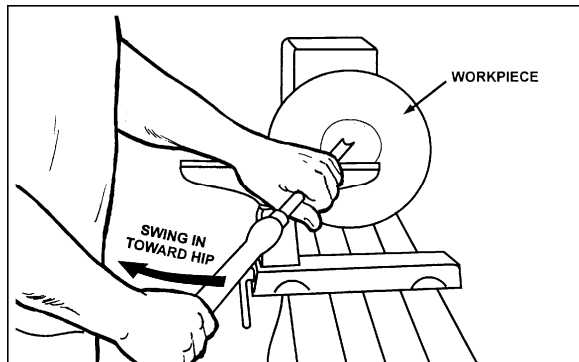

Figure 39
5. Place 1/2" bowl gouge on tool support at center of the workpiece with the flute facing top of bowl. The tool handle should be level and pointed toward the four o'clock position, as shown in Figure 39.
6. Use the left hand to control cutting edge of gouge, while right hand swings tool handle around toward your body (Figure 39). The flute should start out facing top of workpiece, and rotate upward as it moves deeper into the bowl to maintain a clean even curve. As the tool goes deeper into the bowl, progressively work out toward the rim. It may be necessary to turn the tool support into the piece as you get deeper into the bowl.